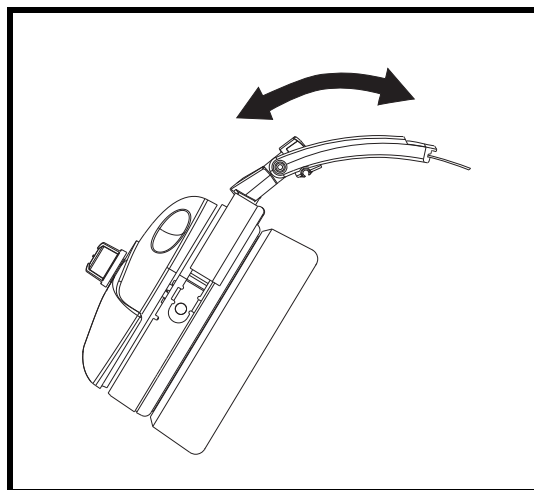

FIGURE 9. Headband Size Adjustment
8. With the headband resting securely on the top of the head, verify the **ear cups** are centered over the ears. Reposition them if necessary by moving the headband sliders up or down (Figure 9). Proper performance depends on proper fit of the headset.
To adjust the headband size, move the Ear cup sliders up or down on the headband (Figure 9). Size is properly adjusted when the ear cups are centered over the ears. It is important to adjust both sides of the headband the same to keep the headband and pad properly centered over the head.